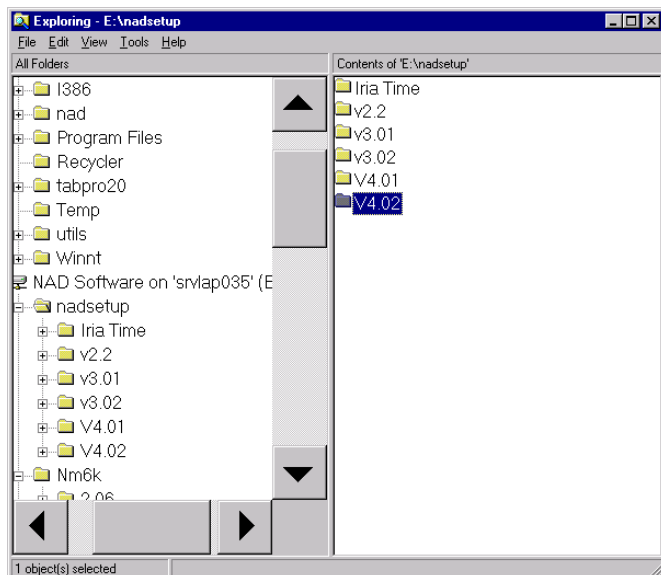

FIGURE 1-13. v4.02 Folder
- 1.34 Select the 'nadsetup' folder and press Enter, then select 'v4.02' folder and press Enter. See FIGURE 1-13.